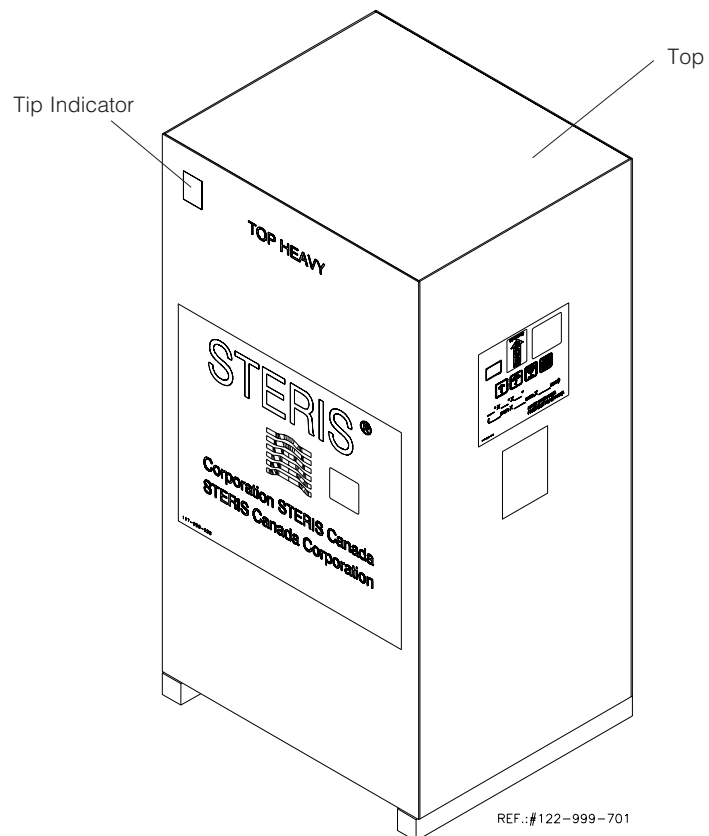

Figure 2-1. Crate
3. Verify Tip Indicator, located on upper left side of crate (see Figure 2-1). Tip Indicator contains a blue compound at the bottom of the indicator. If unit has been tipped, residue from the blue compound will be found higher up in the indicator.